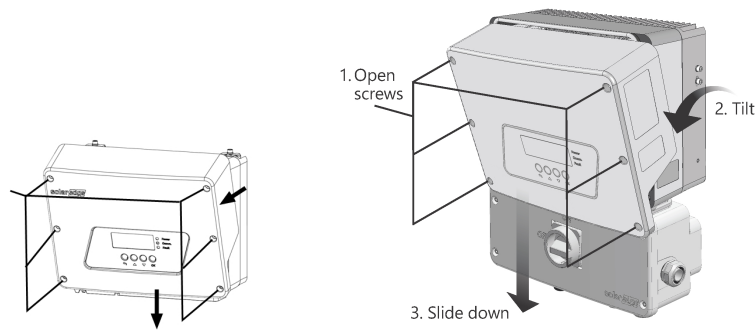

Figure 2: Removing the Single phase inverter with HD-Wave technology cover
4. Open the inverter cover (see *Figure 2*).